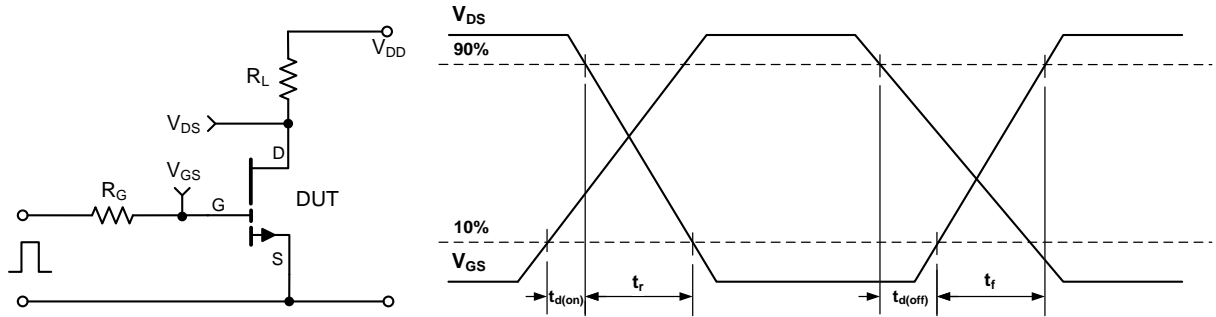

Figure 12: GS66508B switching time test circuit and waveforms
(6) See Figure 12 for timing test circuit diagram and definition waveforms